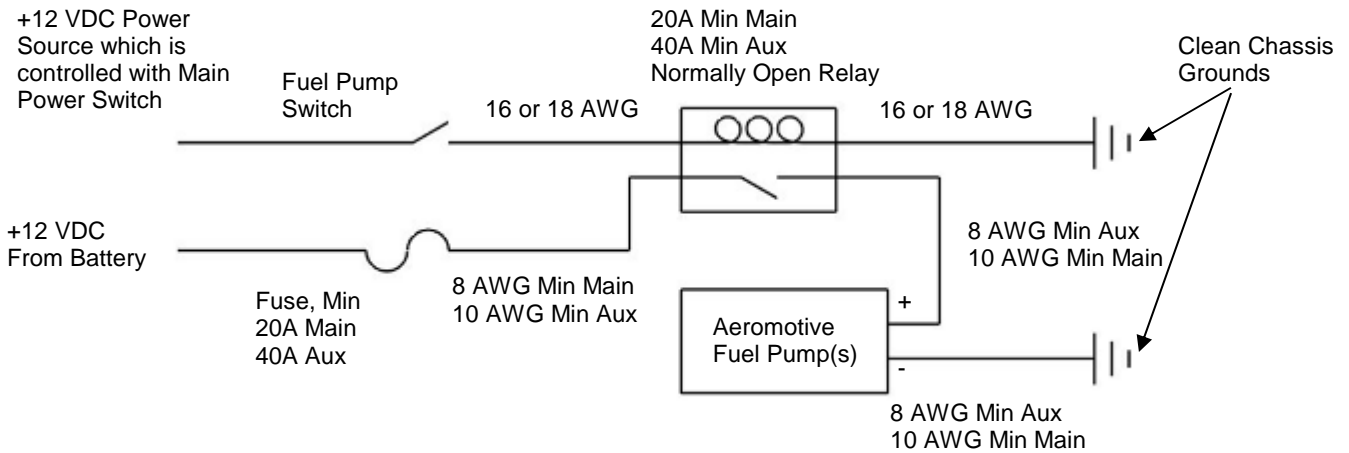

Figure 2-1
18. Prep the new tank by making all the necessary connections (feed, return, vent and electrical) before placing tank in vehicle. In most cases, once the tank is placed in the vehicle these connections will not be accessible. For electrical wiring refer to **Figure 2-1**.